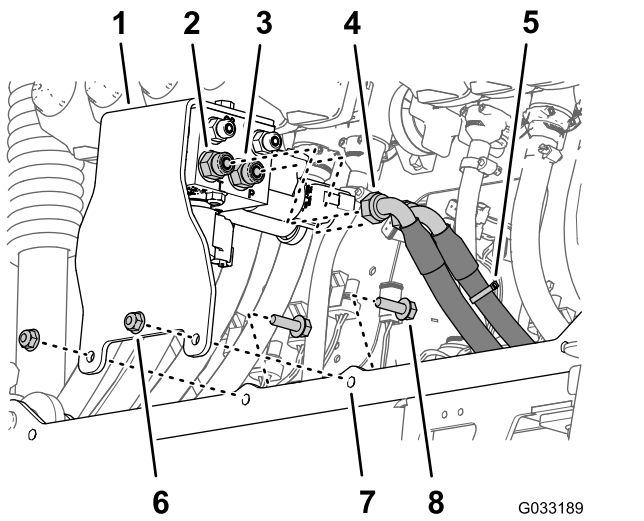

Figure 93
1. Align the holes in the support bracket for the boom-lift manifold that you removed in step 3 of Removing Boom-Lift Manifold from the Center Boom Section (page 29) with the wide cylinder mount of the new center boom section (Figure 93).
2. Assemble the support bracket to the cylinder mount (Figure 93) with the 2 flange-head bolts (5/16 x 1 inch) and flange locknuts (5/16 inch) that you removed in step 3 of Removing Boom-Lift Manifold from the Center Boom Section (page 29).
4. Assemble the hydraulic-pressure hose (marked with a cable tie) onto port P of the boom-lift manifold (Figure 93).
5. Assemble the hydraulic-return hose onto port T of the boom-lift manifold (Figure 93).